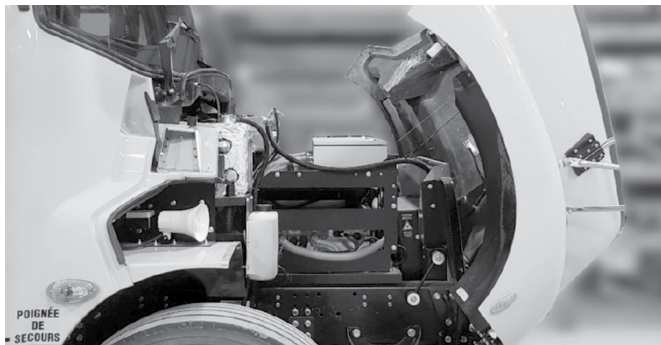

Figure 25- Opened hood
3. Open the hood completely until it stops slightly beyond its vertical position. **(Figure 25)**